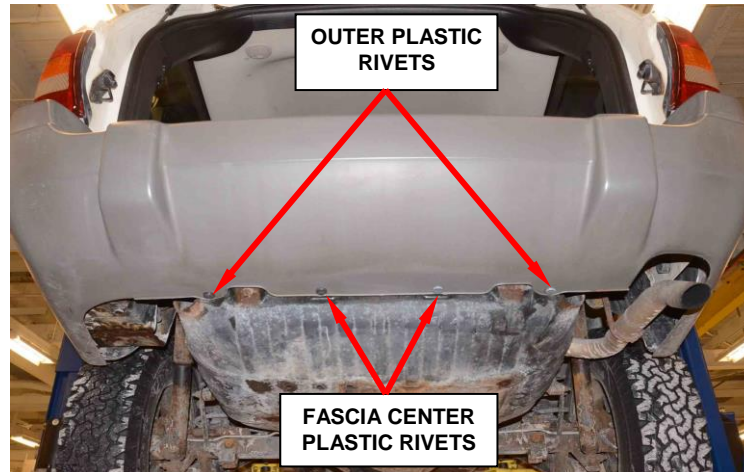

Figure 3 – Fascia Center Plastic Rivets
5. Remove and save the two fascia center plastic rivets (Figure 3).
9. Remove and save the two fascia outer plastic rivets (Figure 3).